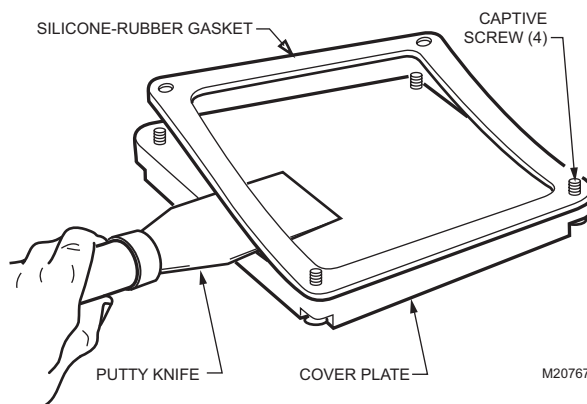

Fig. 22. Replacing the C7076A Detector gasket seals.
2. Locate the coil near the bottom of the chassis (Fig. 22).
7. Remove the other mounting screw from the base of the coil and shutter assembly (Fig. 22).
5. Using a putty knife, carefully separate the silicone-rubber gasket from the inside of the plate (see Fig. 22).